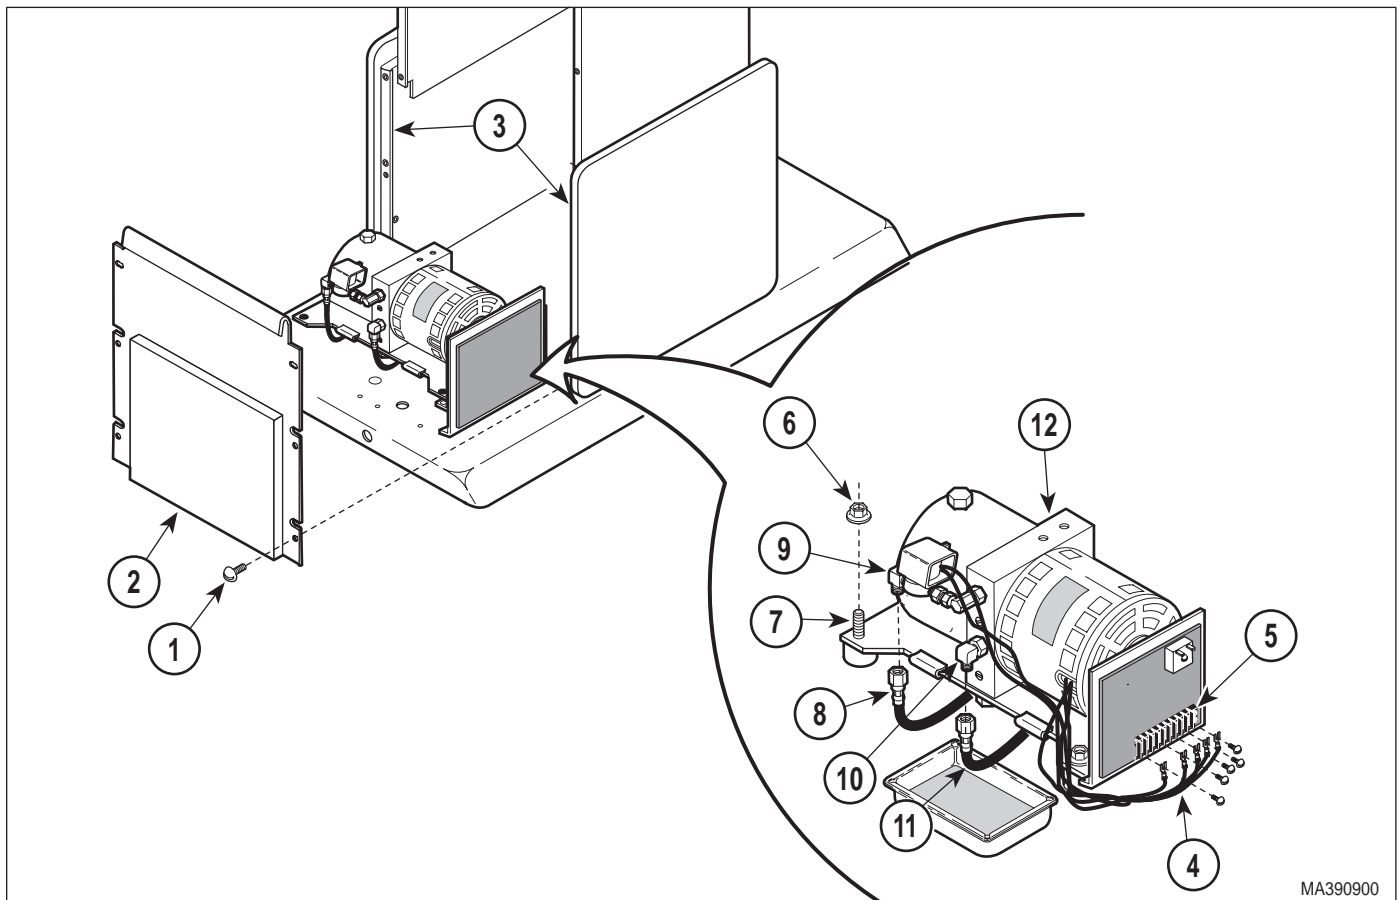
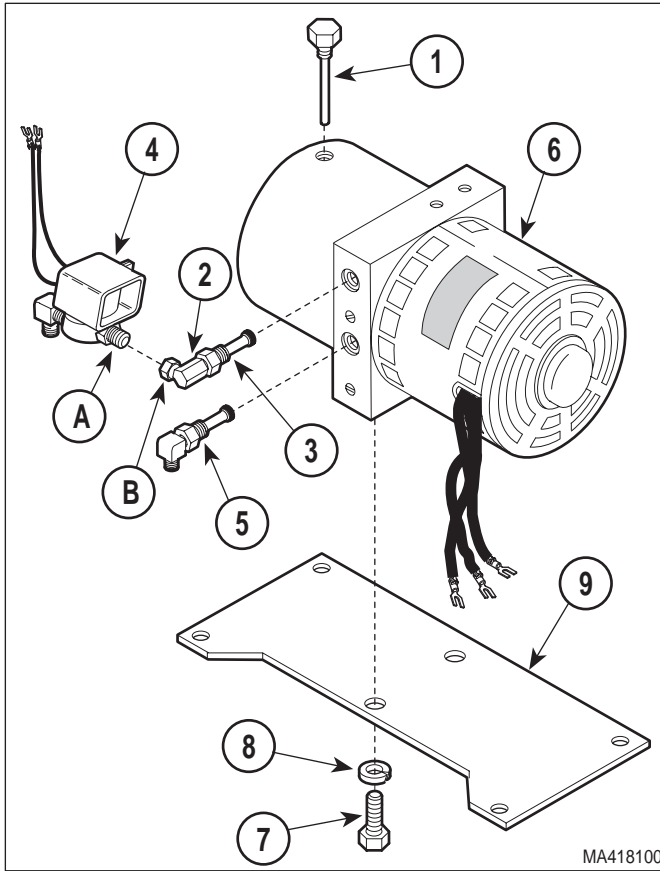

Figure 4-9. Motor Pump Assembly - Complete Removal / Installation
Figure 4-10. Motor Pump Removal / Installation
- (1) Unplug the table power cord from outlet.
- (2) Remove the motor cover assembly (Refer to para 4.2).
- (3) Remove four screws (1, Figure 4-9) and back out shroud (2) from left and right hand outer shrouds (3).
- (4) Tag; then disconnect motor pump and anti-cavitation leads (4) from terminal block (5).
- (5) Remove four nuts (6) from four motor mounts (7).
- (6) Disconnect hose assembly (8) from male elbow (9).
- (7) Place a drain pan under elbow (10) and disconnect hose assembly (11).
- (8) Remove motor pump assembly (12) from four motor mounts (7).
- (9) Remove filler cap (1, Figure 4-10) and drain any remaining oil into the drain pan.
- (10) Using a wrench to hold male connector (A) stationary, loosen jam nut (B) of elbow (2) and disconnect male connector (A) and anti-cavitation solenoid valve (3).
- (11) Remove two screws (4), lockwashers (5), and motor base (6) from motor pump (7).
- (1) Install motor base (6, Figure 4-10) on motor pump (7) and secure with two lockwashers (5) and screws (4).
- (2) Coat threads of male connector (A) with pipe thread tape or sealant.
- (3) Connect male connector (A) and anti-cavitation solenoid valve (3) to elbow (2) and tighten jam nut (B).
- (4) Install motor pump assembly (12, Figure 4-9) on four motor mounts (7) and secure with four nuts (6).
- (5) Connect hose assembly (11) to elbow (12).
- (6) Connect hose assembly (8) to male elbow (9).
- (7) Connect anti-cavitation solenoid valve and motor pump leads (4) to terminal block (5).
- (8) Install back outer shroud (2) on left and right hand outer shrouds (3) and secure with four screws (1).
- (9) Add oil to motor pump (Refer to para 4.4).
- (10) Install motor cover assembly (Refer to para 4.2).
- (11) Plug table power cord into outlet.
- (12) Dispose of used oil in accordance with local regulations.